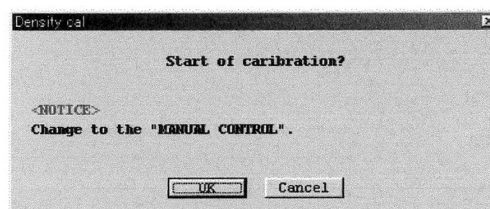

Fig.102
- ③ A message box as shown in Fig. 102 appears. If you want to make a density calibration, click on "OK". To abort it, click on "cancel".